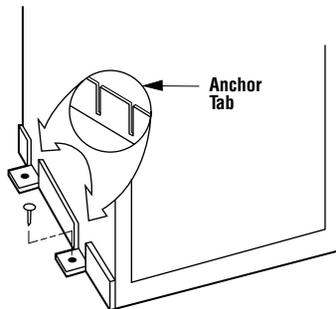

Figure 10
Fireplace may be anchored to floor. Bend down four (4) anchor tabs located at the base of the fireplace and secure to the floor by nailing with 8d nails (**Figure 10**).